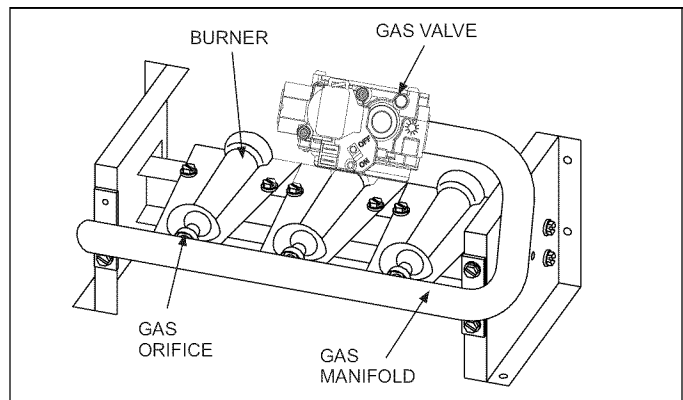

FIGURE 9: Burner Assembly
4. Remove the four screws that attach the gas manifold to the burner support box. See Figure 9.